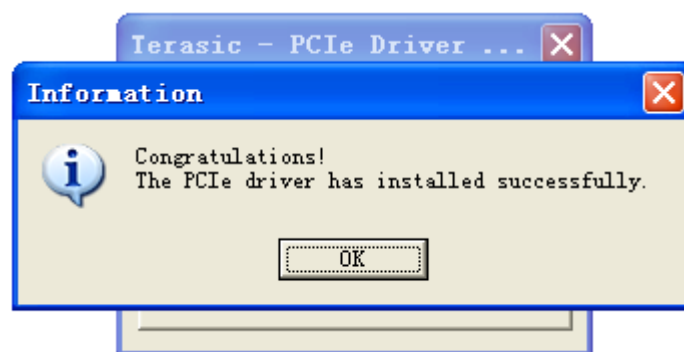

Figure 6-10 PCIe Driver Installed Successfully
4. It takes several seconds to install the driver. When installation is complete, the following dialog window will popup shown in **Figure 6-10**. Click “OK” and then “Exit” to close the installation program.